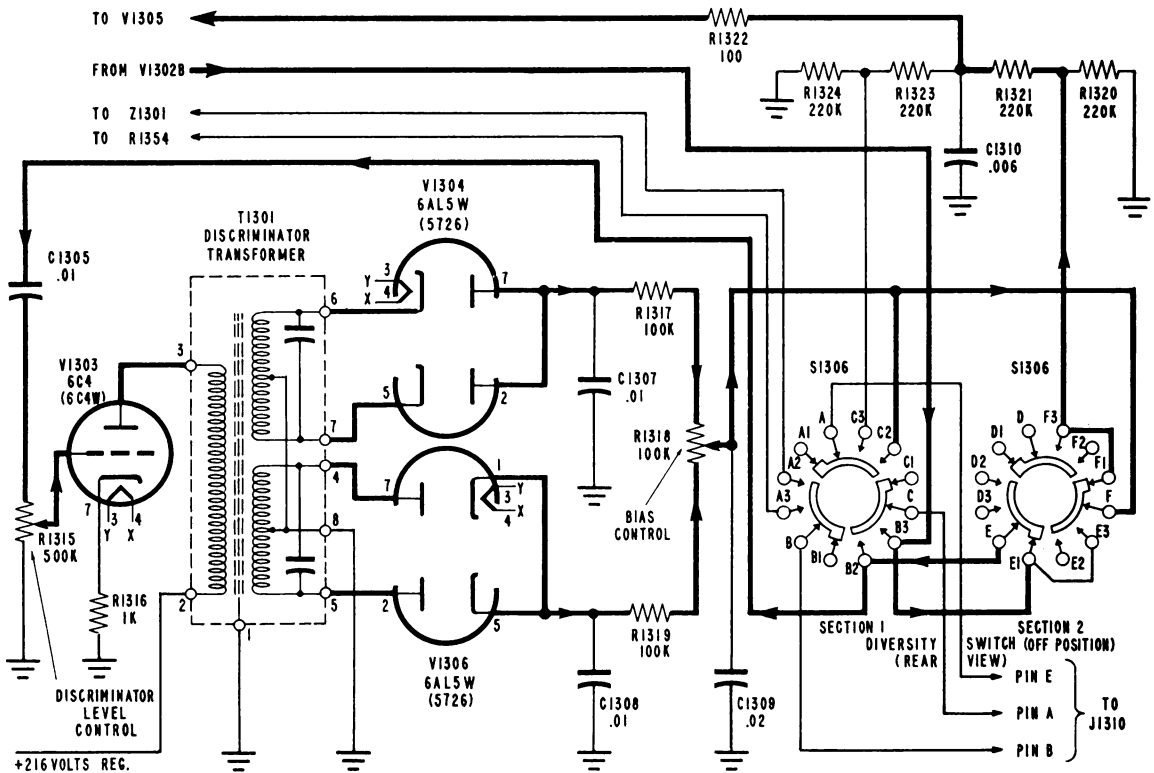

Figure 2-11. Schematic Diagram of Discriminator and Diversity Combining Circuits
d. DISCRIMINATOR AND DIVERSITY COMBINING CIRCUITS. - (See figure 2-11.) With the DIVERSITY switch S1306 in the OFF position the output of the limiting amplifier is connected through S1306 to the 0.01 mf coupling capacitor C1305 and the 500,000 ohm potentiometer R1315 (DISCRIMINATOR LEVEL CONTROL). The potentiometer R1315 controls the magnitude of the signal applied to the grid of the 6C4 type tube V1303, and the 1000 ohm resistor R1316 provides self-bias. The discriminator transformer T1301 has one primary